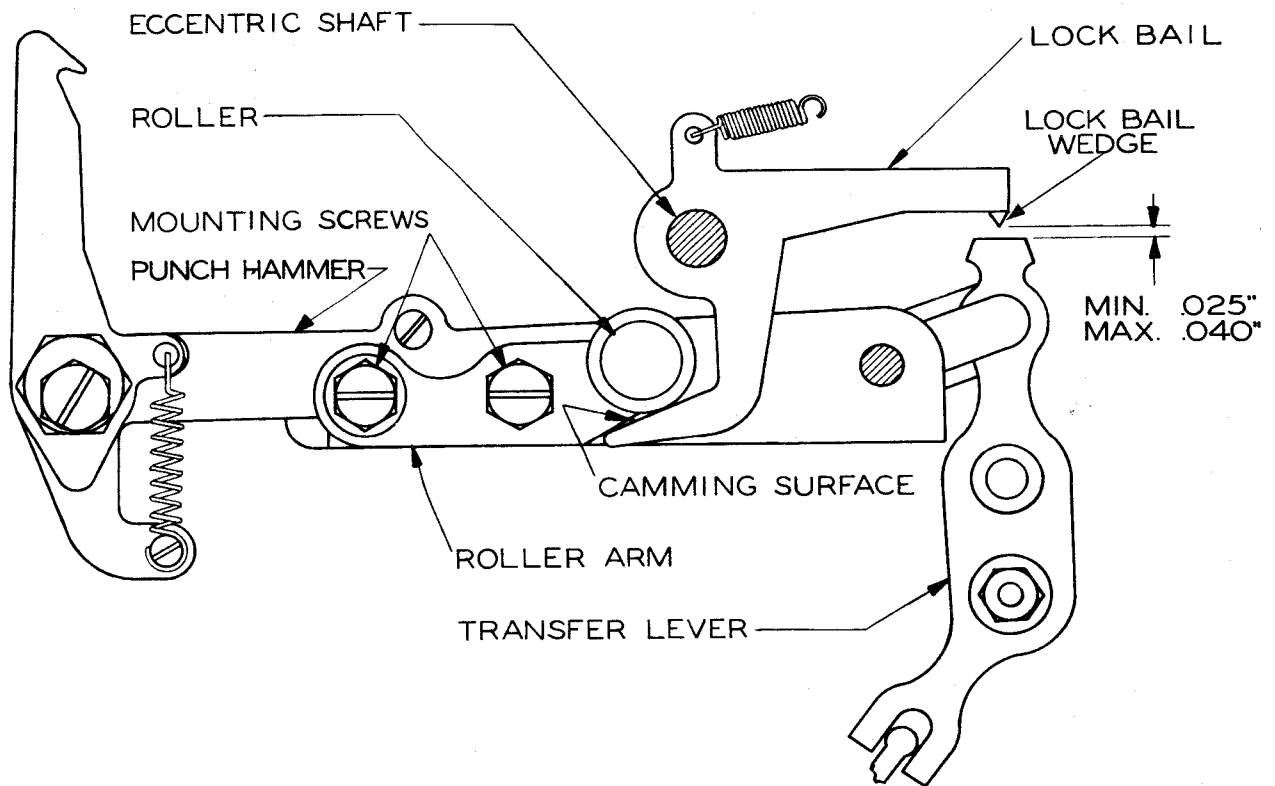

Figure 6
2.13 The Lock-bail Wedge should be seated firmly between at least two transfer levers, with the Y combination set up and the main shaft rotated until the punch hammer is in its extreme upward position. For identification of parts see Figure 6.
2.14 The Lock-bail Wedge should clear the transfer levers as indicated in Figure 6 when the main shaft is in its stopped position and the transfer levers are held in center of their travel. (See Figure 6.)